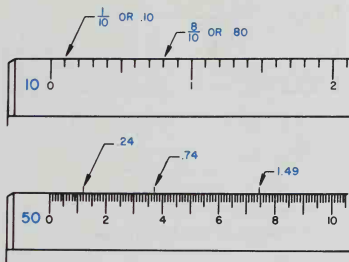
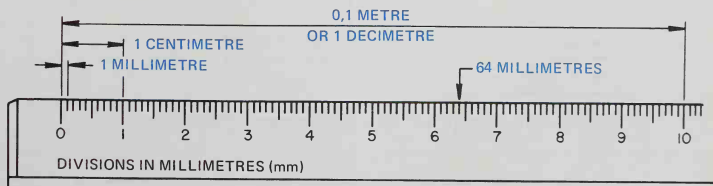

Fig. 1-12. The decimal inch scale or civil engineer's scale.
Fig. 1-13. Reading the metric scale.
Other than the construction industry, most industries in the United States today are using the decimal inch system of measurement, Fig. 1-12. This system is subdivided into tenths or multiples of 10 such as 50 parts to the inch. Each subdivision on the scale marked "10" is 1/10 or .10 of an inch and each
The metric scale is a decimal scale with 10 parts or multiples of 10 parts to the unit, Fig. 1-12. A period is used for the decimal point in English speaking countries; most others use a comma. Zero (0) precedes any number smaller than a millimetre, for example 0.14 mm. Refer to Fig. 1-13. This is the full-size metric scale and some measurements are shown.